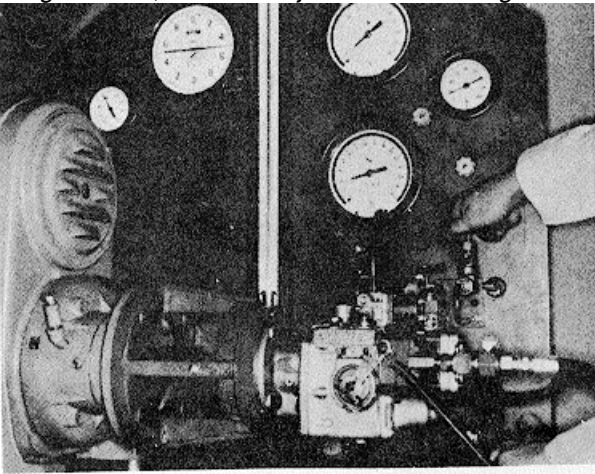

Fig. 5-1-21, F5113. Open idle orifice valve
1. Close main flow control valve and open idle orifice valve. Fig. 5-1-21.